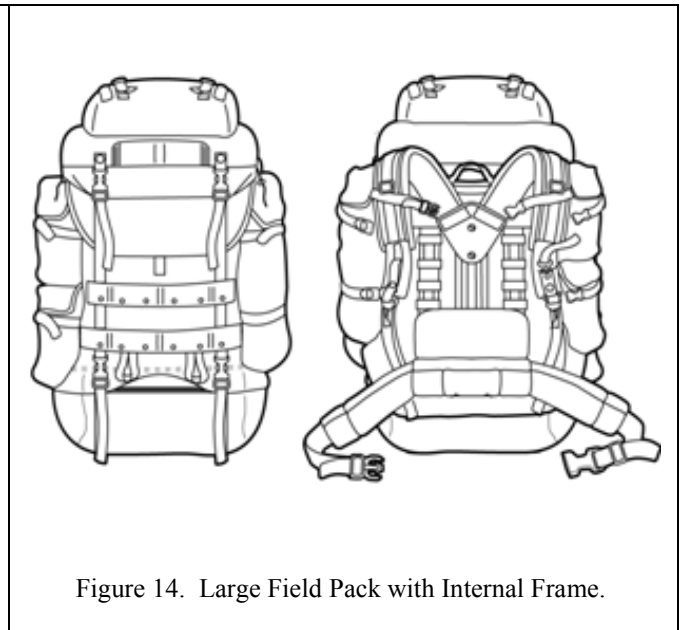

Figure 14. Large Field Pack with Internal Frame.
**Large Field Pack with Internal Frame (Replaced by MOLLE II TM 10-8465-236-24&P).** The Large Field Pack with Internal Frame (Figure 14) is constructed of an 8.0 ounce back coated nylon fabric which has excellent abrasion resistance and water repellency. The weight of the empty pack is 8 lbs. The pack has two major sections: the sleeping bag compartment, and the main compartment. The main compartment has a false bottom that may be opened for full use of the pack when a sleeping bag is not carried. The outside of the pack has one long tunneled pocket and two smaller cargo pockets, all using compression straps for securing contents, and equipment attachment points in the form of 2 1/4-inch webbing and 1-inch webbing loops are located throughout the pack.